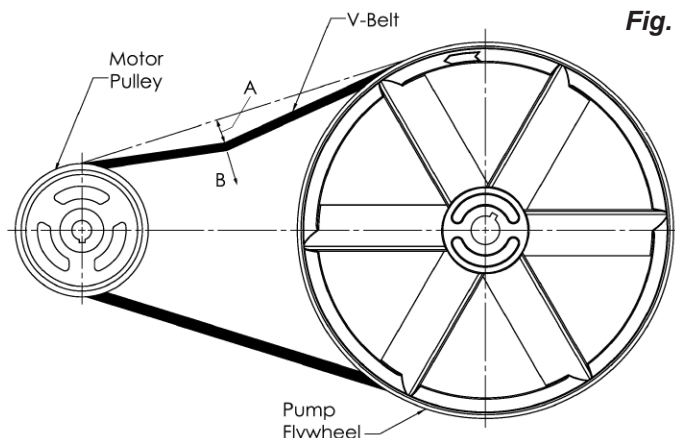

Fig. 8
Proper belt tension and pulley alignment must be maintained for maximum drive efficiency and belt life (See **Fig. 8**). The correct tension exists if a deflection (See **Fig. 8 A**) of 1/4" (6.5 mm) occurs by placing 10 lbs. (4.6 kg) of force (See **Fig. 8 B**) midway between the motor pulley and the pump flywheel. This deflection can be adjusted by the following procedure. The pulley should be carefully aligned with the flywheel, and all set screws should be kept tight.
3. Shift the motor to the point where the correct deflection exists (See **Fig. 8 A** and **B**).
5. Shift the motor back to the point where the correct deflection exists (See **Fig. 8**, "Drive Belt Tension Adjustment").